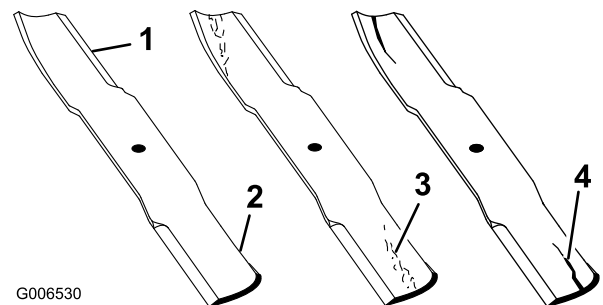

Figure 51
1. Inspect the cutting edges (Figure 51). If the edges are not sharp or have nicks, remove and sharpen the blades. Refer to Sharpening the Blades (page 39).
2. Inspect the blades, especially the curved area (Figure 51). If you notice any damage, wear, or a slot forming in this area (item 3. in Figure 51), immediately install a new blade.